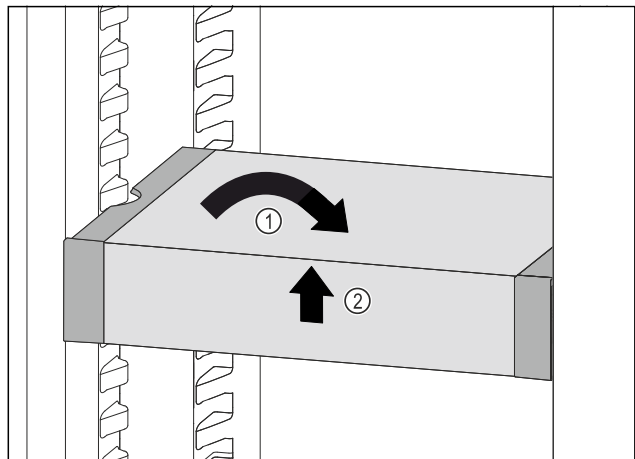

Fig. 118
- ▶ Set VarioSafe straight. Fig. 118 (1)
- ▶ Lift VarioSafe at the front. Fig. 118 (2)